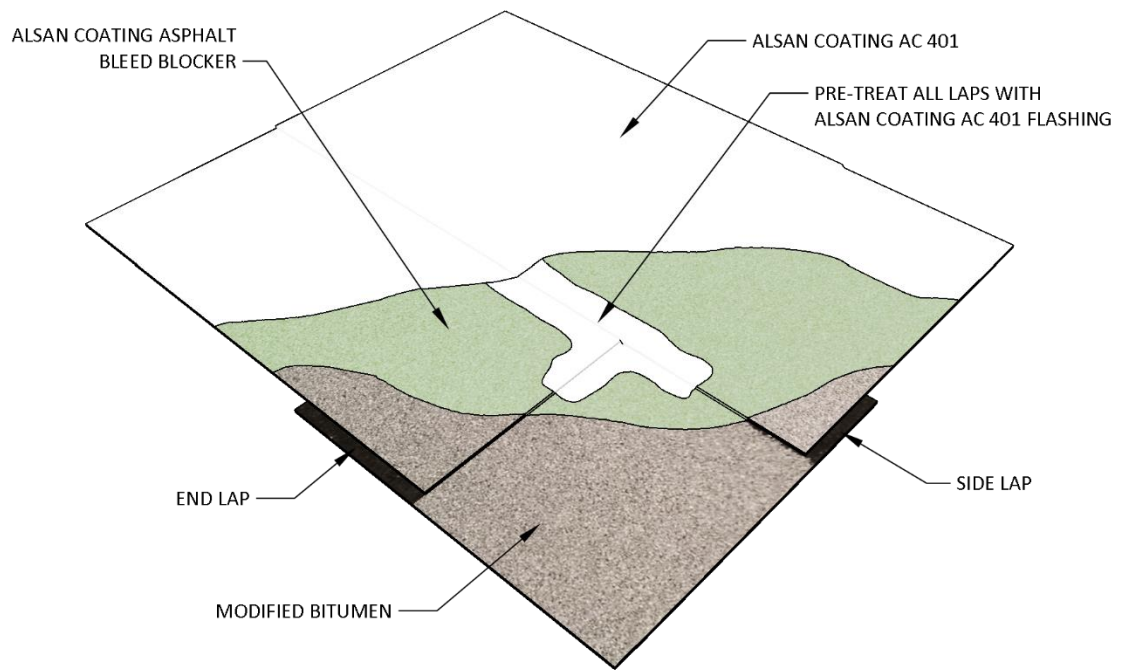

Figure 2.2a Acrylic Roof Coating Over Modified Bitumen, Side/End Laps
- Refer to flashing detail guidelines indicated in Figures 2.2a through 2.2d.
- For ALSAN® COATING AC 401 flashing detail guidelines, refer to Figures 2.2a through 2.2h.